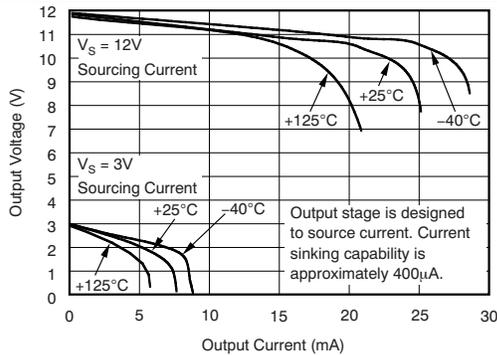

Fig 8. Positive Output Voltage Swing vs Output Current
(2) Total output error includes effects of gain error and V_{OS} .
(3) Linearity is best fit to a straight line.
(4) For details on this region of operation, see Accuracy Variations section in Device Functional Modes.
(5) See Figure 8.
(6) Specified by design.